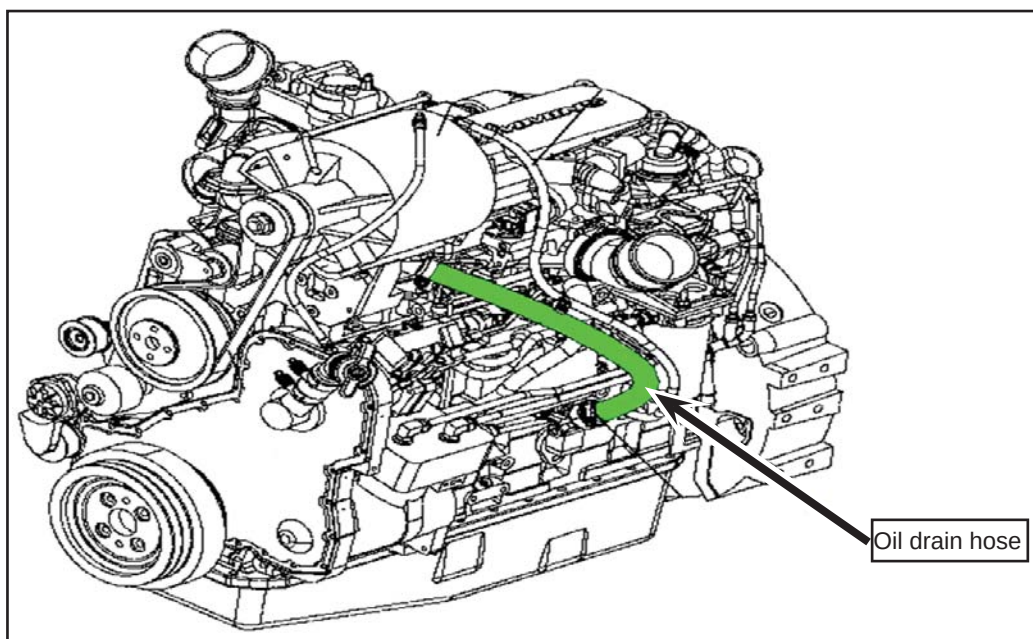

Figure 1 - Oil Drain Hose Location
- 1.2. Locate the alternator oil drain hose. See Figure 1.